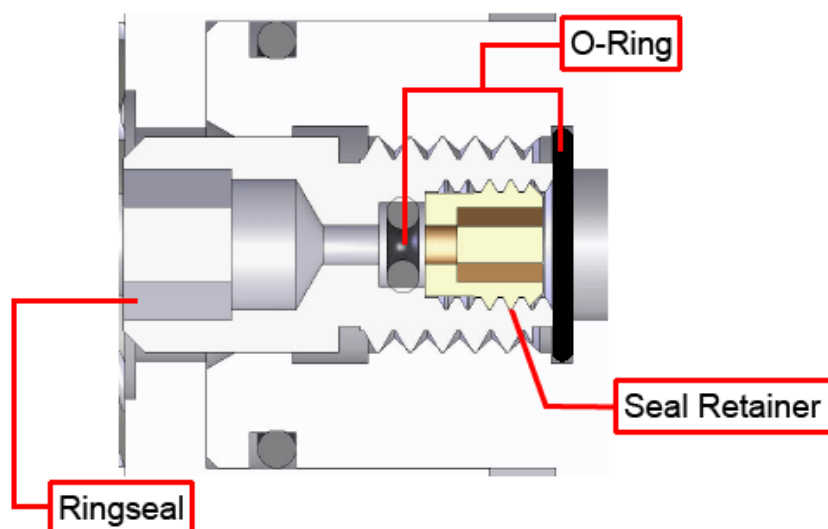

Figure 4-3: Cross-Section View of Ringseal Showing O-Ring
5. Remove the damaged or worn o-ring and replace it with a properly sized and lubricated new o-ring (as shown in Figure 4-3). A long pick or thin screwdriver will be necessary to remove the o-ring and replace it. Contact Aerotech for the appropriate o-ring size and type.